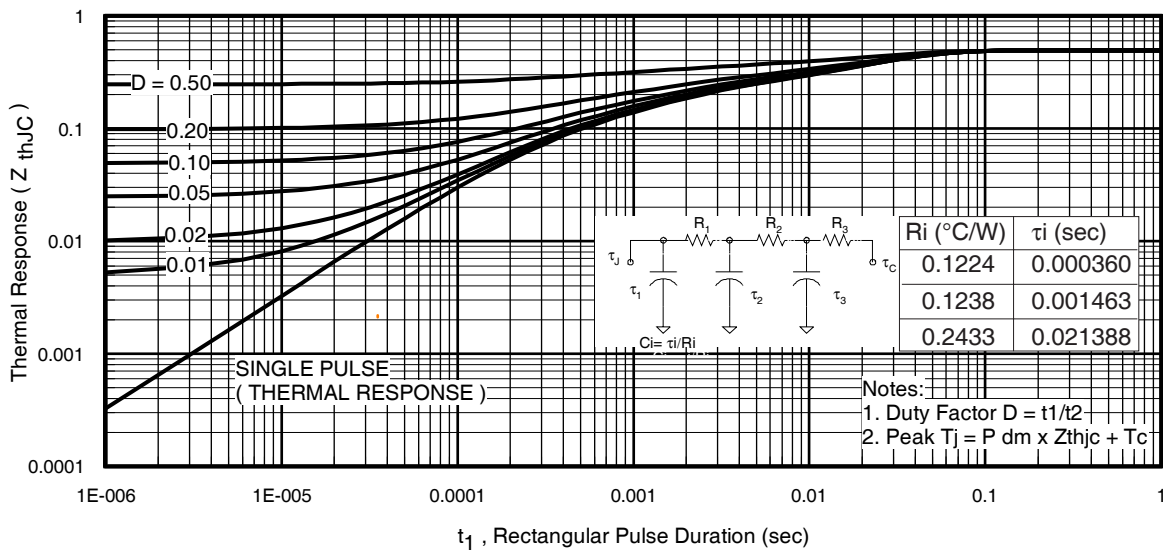

Fig 11. Maximum Effective Transient Thermal Impedance, Junction-to-Case
- ① Repetitive rating; pulse width limited by max. junction temperature. (See fig. 11).
- ② Limited by T_{Jmax} , starting $T_J = 25^\circ\text{C}$, $L = 0.13mH, R_G = 25\Omega, I_{AS} = 90A, V_{GS} = 10V$.
$Z_{thJC}(D, t_{av})$ = Transient thermal resistance, see figure 11)